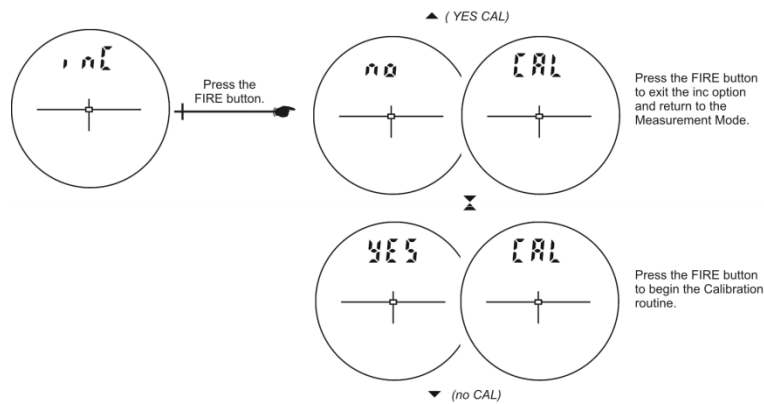

Figure 5. The TruPulse viewfinder when initiating the tilt-sensor calibration routine.
3. Press ▼ until **inC** is displayed in the viewfinder, then press “Power/Fire” (Figure 5).